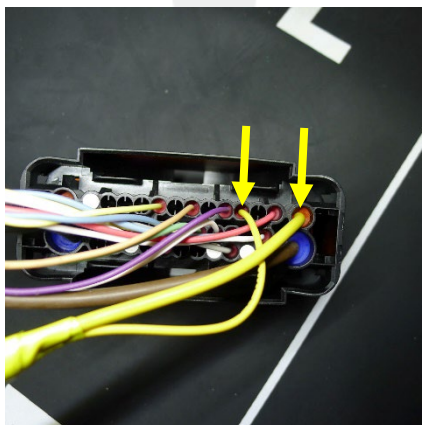

Figure 30
27. Perform a Push-Pull-Push check on each wire to make sure the wires are secure in the connector (Figure 30).